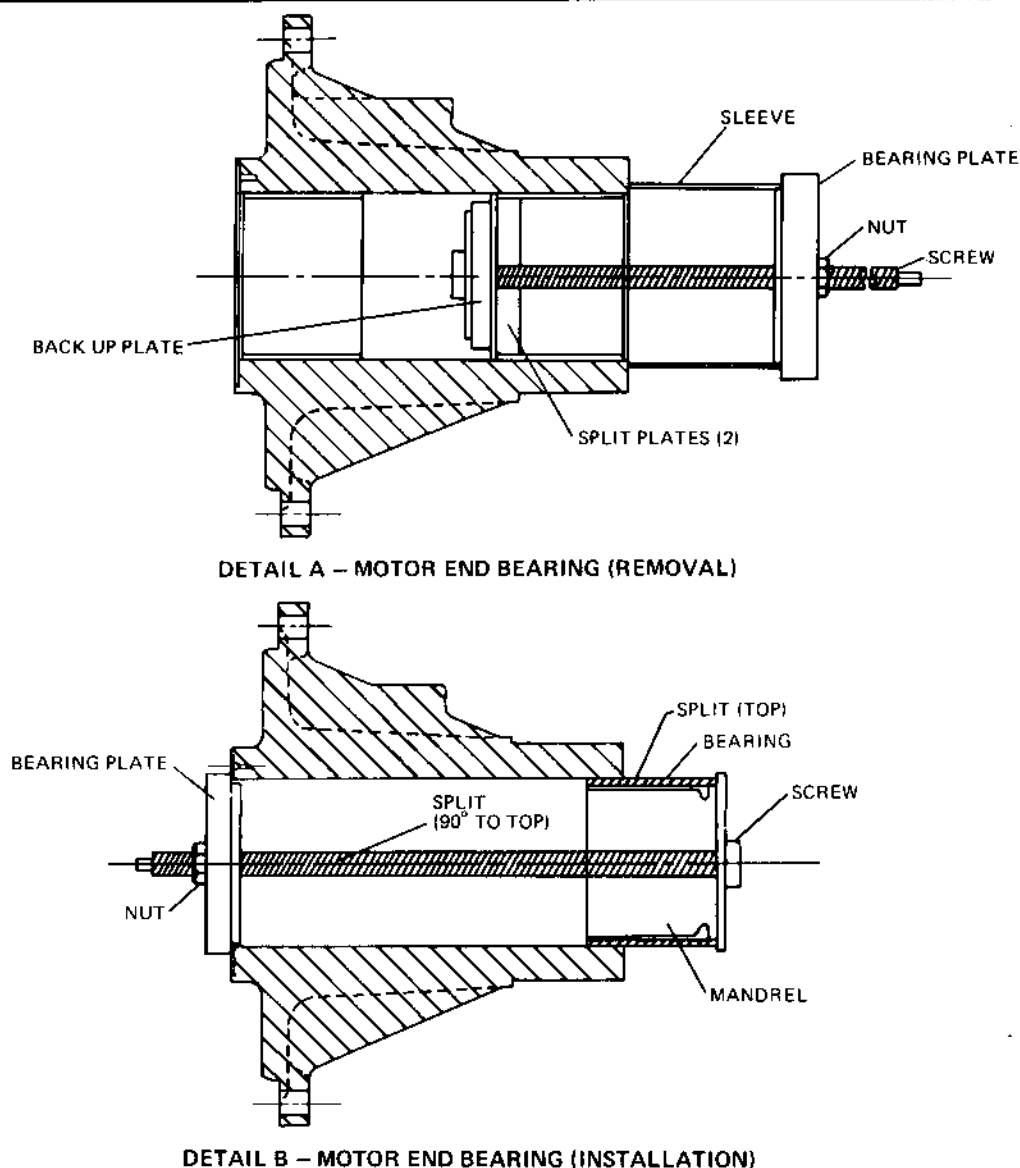

FIG. 26 — MOTOR END BEARINGS
6. Using the bearing removal tool as shown in Fig. 26, Detail A, remove the old bearings from the housing. Bearings are removed one at a time in a similar manner from opposite ends of the bearings head.
8. Using the bearing removal tool as shown in Fig. 26, Detail B, pull the bearings into the bearing head one at a time from opposite ends, taking care that the bearings enter to bearing head squarely. Note that the "split" in one bearing should be at the top; the "split" in the second bearing should be turned 90° to either side. Continue to pull the bearings into the head until they are 1/32" below the end surfaces of the bearing head.